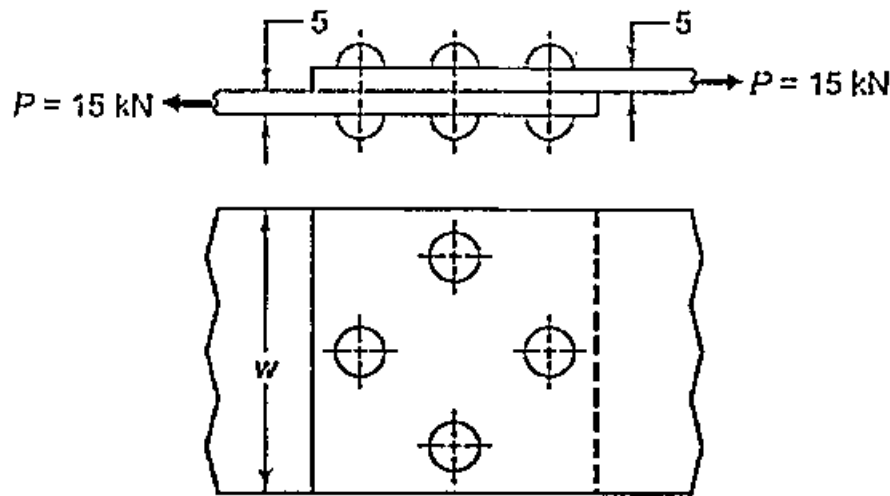

Fig:5
- (b) Two plates, each 5 mm thick, are connected by means of four rivets as shown in Fig.5. The permissible stresses for rivets and plates in tension, shear and compression are 80 , 60 and 120 N/mm^2 respectively. Calculate : (i) diameter of the rivets; (ii) width of the plate; and (iii) efficiency of the joint.